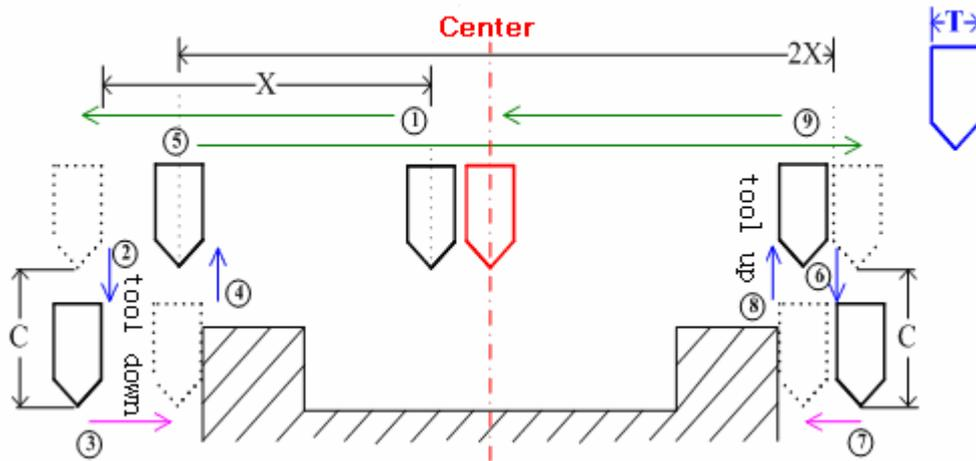

Fig. 6-7 Calibration Process of X Outer Center
- ◆ X outer center calibration is as Fig.6-7. (It's the same as outer calibration of Y center and XY center)